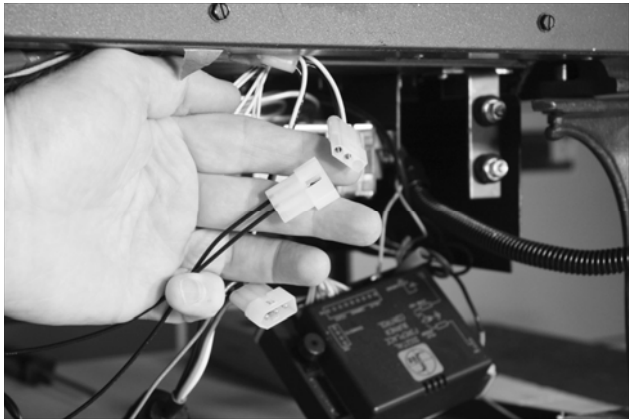

Figure 8
9. Place the fan assembly at the back of the stove with the motor positioned to your left. Firmly press the two connectors on the fan wiring harness marked "Blower" onto the tabs on the fan motor. Orientation does not matter. Connect the white plastic 2-wire connector on the fan wiring harness to the corresponding 2-wire connector on the stove wiring harness. See Figure 8.